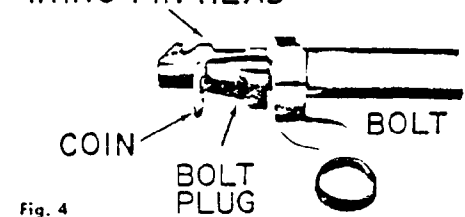

Fig. 4
**TO DISASSEMBLE BOLT PARTS** — Remove bolt from gun. Pull firing pin head back until coin or similar piece can be inserted (Fig. 4). Then hold bolt handle and turn bolt plug at rear until firing pin assembly can be unscrewed and removed from bolt assembly. Reassemble in reverse order.
**TO DISASSEMBLE BOLT PARTS** — Remove bolt. Pull firing pin head back until coin or similar piece can be inserted in slot near back edge of firing pin head (Fig. 4). Then hold bolt handle and turn bolt plug at rear until entire firing pin assembly can be unscrewed and removed from bolt assembly. Reassemble in reverse order.